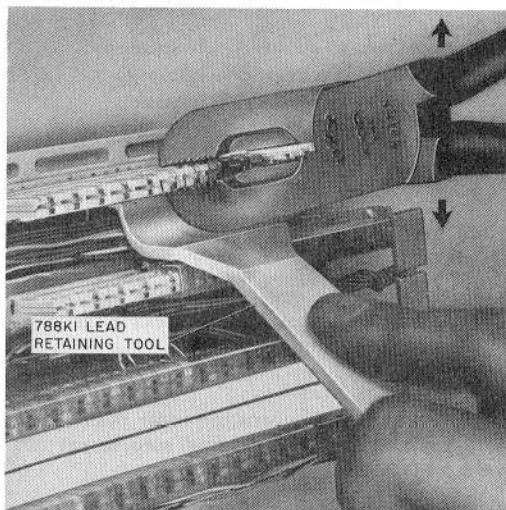

Fig. 27—788K1 Lead Retention Tool
- (1) Tag and remove the cross-connect wires from the connecting block.
- (2) Remove the designation strip from the wiring block.
- (3) Position the blade end of the 788K1 tool at the base of the connecting block over the cable pairs to retain them in the index strip while the connecting block is being removed (Fig. 27).
- (4) Using a pair of combination or side-cutting pliers, grip the 88-type connecting block firmly in the center as shown in Fig. 27, then gently pull with a slight up-and-down motion to release the connecting block from index strip. **Do not reuse connecting block.**
- (5) If the cable conductors were pulled out of the index strip on the wiring block, replace them as follows after cutting off old contact portion of wire: